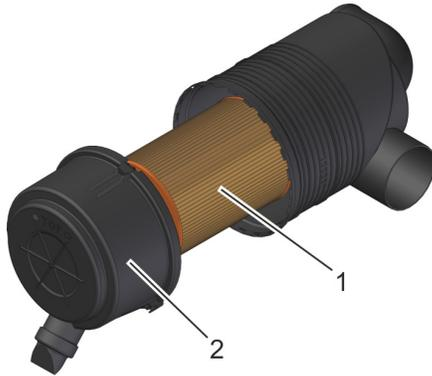

Fig. 34: Removing the cover from the intake filter
- 4.** Remove the cover from the intake filter (Fig. 34/2).
- 5.** Remove the old filter element (Fig. 34/1).
- 6.** Insert the new filter element (Fig. 34/1).
- 7.** Replace the cover on the intake filter (Fig. 34/2).